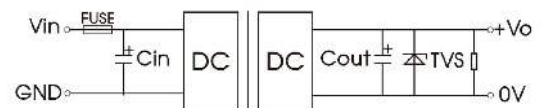

Fig.1
- (1) We recommended using the recommended circuit shown in Fig.1 during product testing and application, otherwise please ensure that at least a 220 $\mu$ F electrolytic capacitor is connected at the input in order to ensure adequate voltage surge suppression and protection.
- (2) We recommended increasing the value of Cin and pay attention to the unstable input voltage if the product input side is paralleled with motor drive circuit and/or larger energy transient circuits, to ensure the stability of input terminal and avoid repeatedly start-up problems due to input voltage lower than undervoltage protection point.
- (3) We recommended increasing the output capacitance with limited to the capacitive load specification and/or increasing the voltage clamping circuit (such as TVS) if the output terminal is inductive device such as relay or a motor, to ensure adequate voltage surge suppression and protection.
- (4) Input and/or output ripple can be further reduced by appropriately increasing the input & output capacitor values Cin and Cout and/or by selecting capacitors with a low ESR (equivalent series resistance). Also make sure that the capacitance is not exceeding the specified max. capacitive load value of the product.